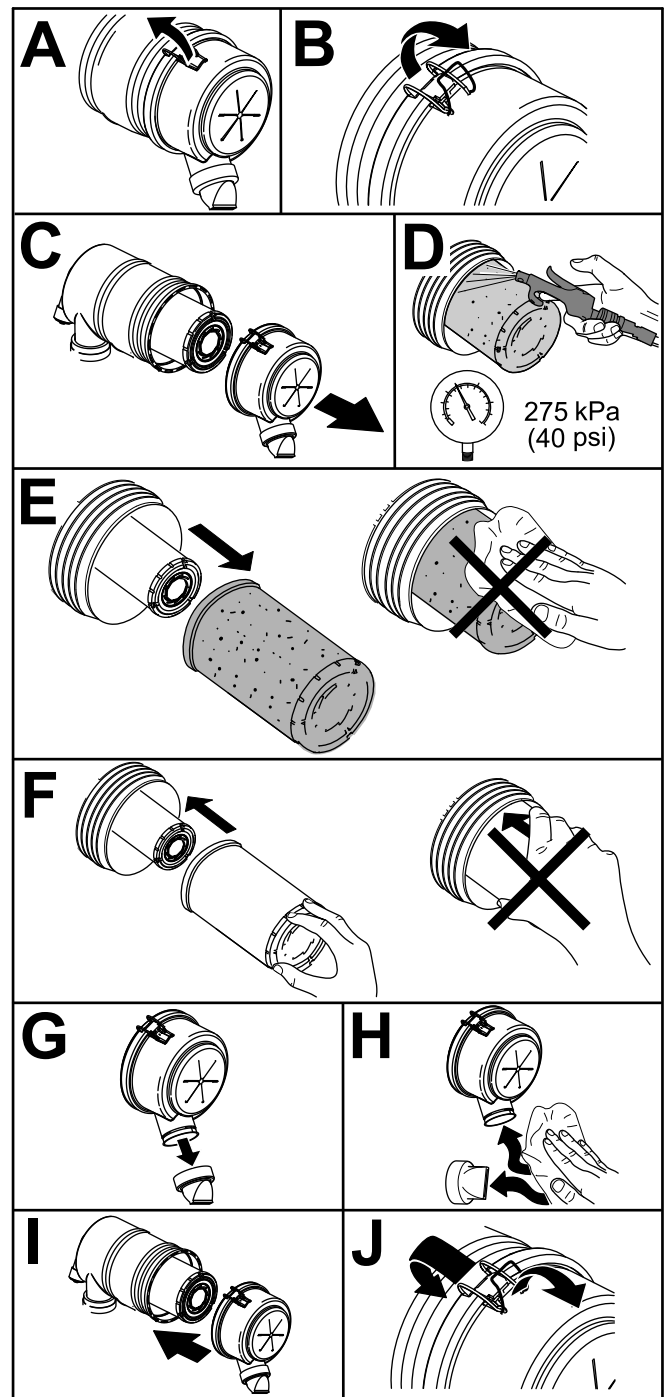

Figure 56
1. Replace the air filter element (Figure 56).